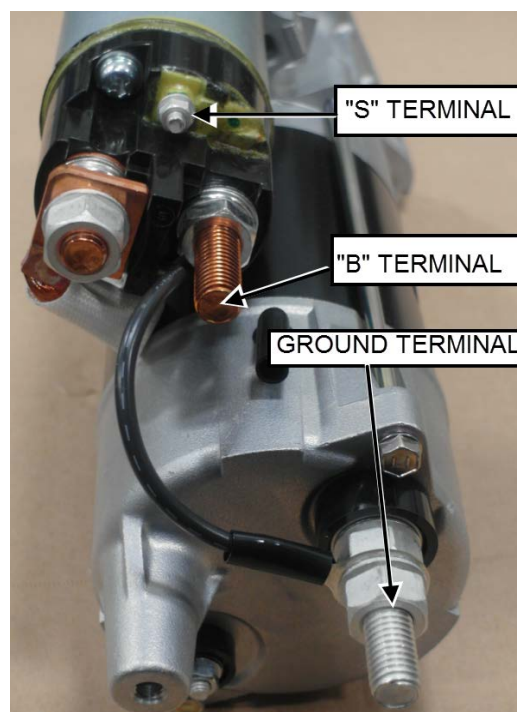
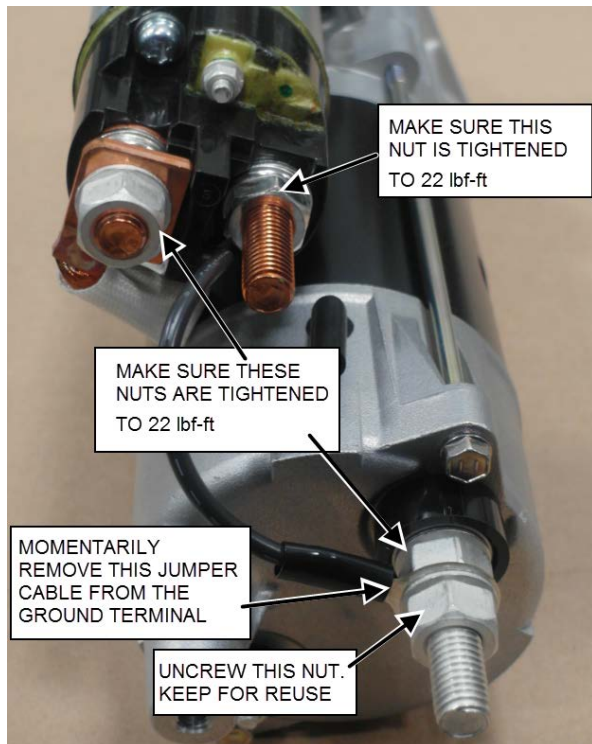

FIGURE 4 : TERMINAL IDENTIFICATION
FIGURE 5
1. If the starter is replaced with a brand new starter, prepare the new starter as follows (refer to FIGURE 5).
- a) Remove the second nut on the ground terminal (FIGURE 5). Keep for later use.
- b) Remove the jumper cable connected to the ground terminal (FIGURE 5).
- c) Make sure that the three nuts identified on FIGURE 5 are tightened to a torque of **22 lbf-ft**.
7. Connect circuit **101** to **B** terminal (FIGURE 4 & FIGURE 5). Position circuit **101** cable to be in line with the nylon tie mount on the starter.
9. If not already done, remove the nut and washer provided with the brand new alternator on **S** terminal (FIGURE 4).